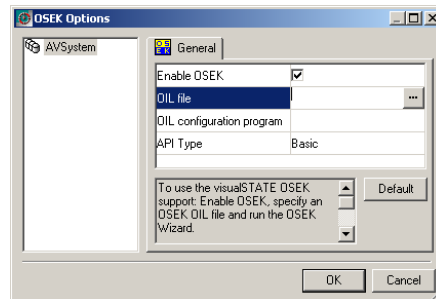

Figure 210: OSEK support enabled
- 3 Select the **Enable OSEK** check box to enable OSEK support for the Project. The other options of the dialog box will become available. See *Figure 210*, page 314.
5 The Runtime format list shows the current OSEK options. If the visualSTATE Project only contains one visualSTATE System, and the value for the OSEK option *API type* is *Expert* (see *Figure 210*, page 314), a warning is given when you proceed to the next wizard page.